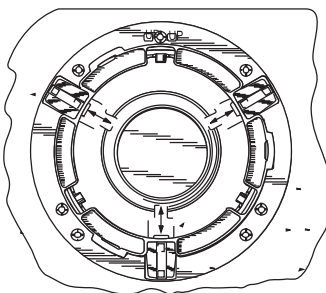

Figure 3
- 3 What causes the adjustment clip to come out of the dispenser? The primary cause is while loading cups. The operator inadvertently exerts excessive force on the flat part of the clip (Figure 3) causing it to come out of adjustment or in extreme circumstances out of the dispenser.